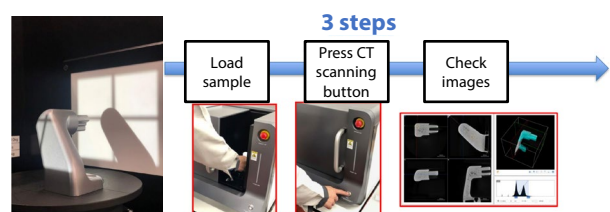

Fig. 3 Left: Guide Light / Right: Operational Steps
The main unit has a rotation table on which samples are placed for CT scanning. The guide light function (Fig. 3, left image) assists in positioning the sample. From the shadow of the sample projected onto the light receiving screen, the scanning range can be ascertained. Therefore, there is no need for an advanced scanning plan or projecting a fluorescent image. The image taking procedures are also extremely simple. Just place the sample on the table; close the door, press the CT scanning button and scanning will start, without the calibration that has been required for CT scanning until now (Fig. 3, right images). The scanning conditions can be set by just selecting the following four items: the material (plastic or metal) and the resolution (Fast: low resolution but quick, or Fine: high resolution but slow). So detailed setting conditions are not required. Until now image, quality depended on the skill of the user. But now ideal images can be taken regardless of the operator's proficiency level in as little as 12 seconds. After scanning is completed, multi-planar reconstruction (MPR) images and volume rendering (VR) images are displayed, which enables the interiors of parts and products to be observed easily and in a short time. Dimensional measurements can be taken on cross-sectional images, enabling not only pass/fail decisions to be made but also feedback to manufacturing lines in a short time.